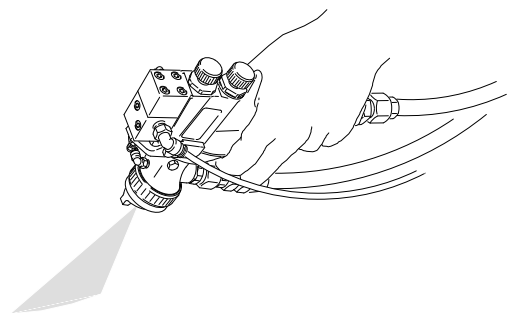

Fig. 3
2. Trigger the gun into the spray booth* to relieve the fluid pressures and clear excess activator from the gun. See Fig. 3.